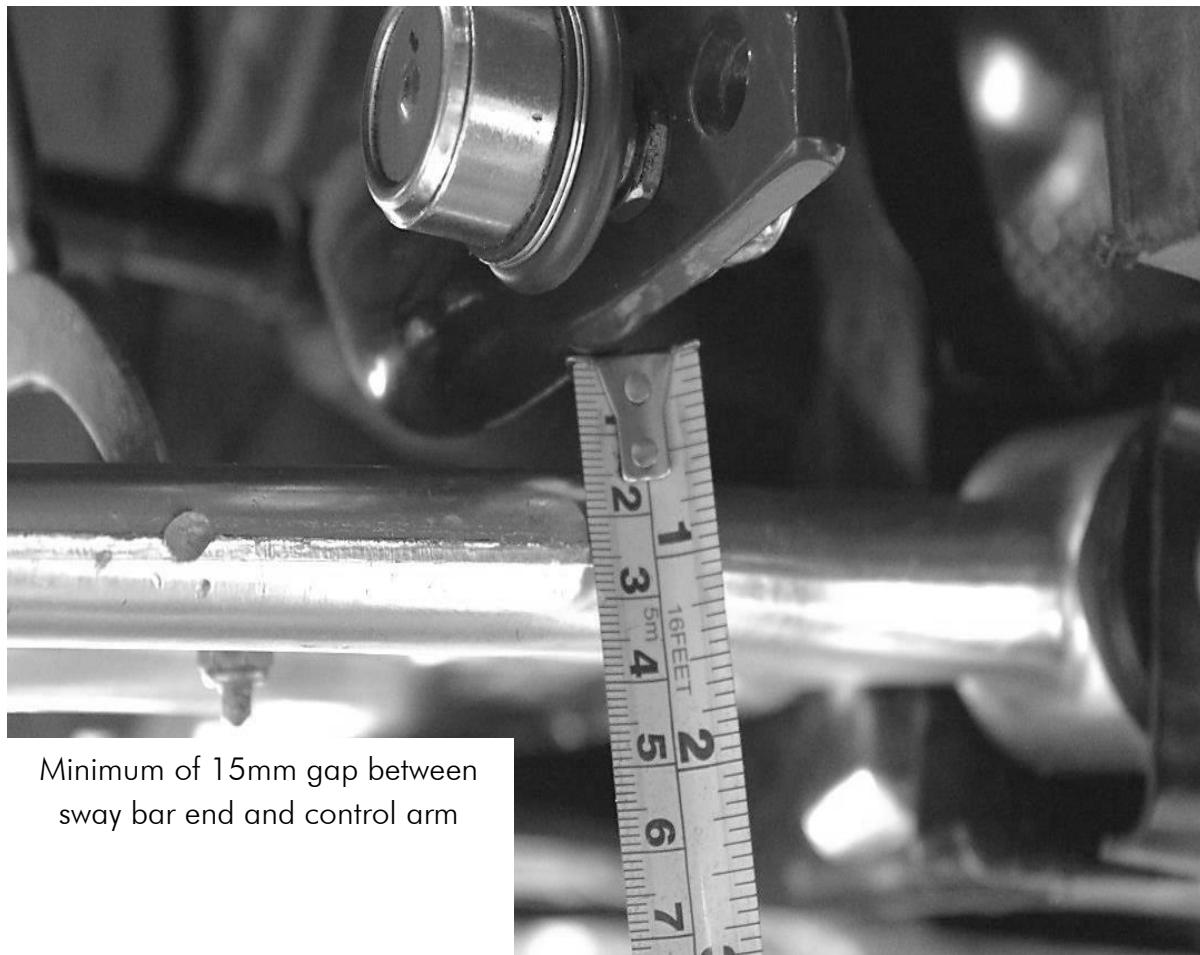

Figure 03 – Gap between link and control arm
- Adjust the TRC4301 sway bar link to the same length as the [OE] assembly for [OE] sway bar and the soft position of an adjustable sway bar, ensuring a minimum of 15mm is maintained as per Figure 03. For other positions on adjustable sway bars, the link should be shortened accordingly;